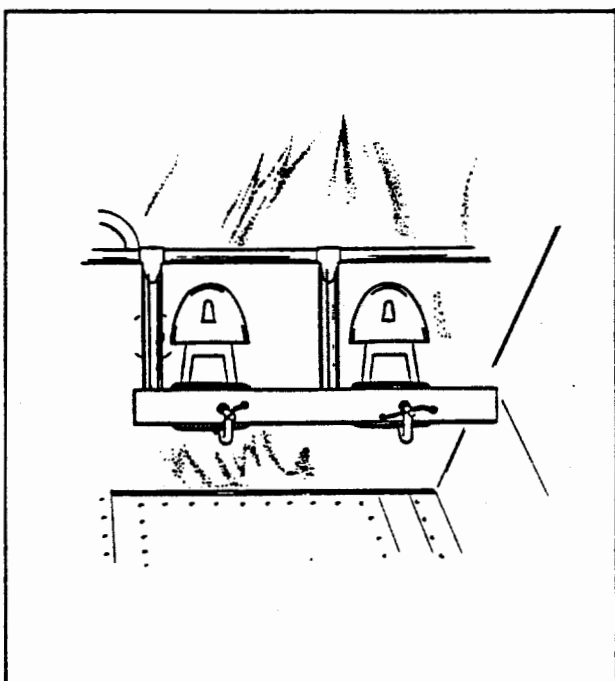

Figure 7-3. Clamping Rudder Pedals in Neutral Position
- g. Clamp the rudder pedals together to align them in a lateral position. (Refer to Figure 7-3.) The rudder pedals are tilted $14^{\circ} +3^{\circ} -1^{\circ}$ aft of vertical when in their neutral position.